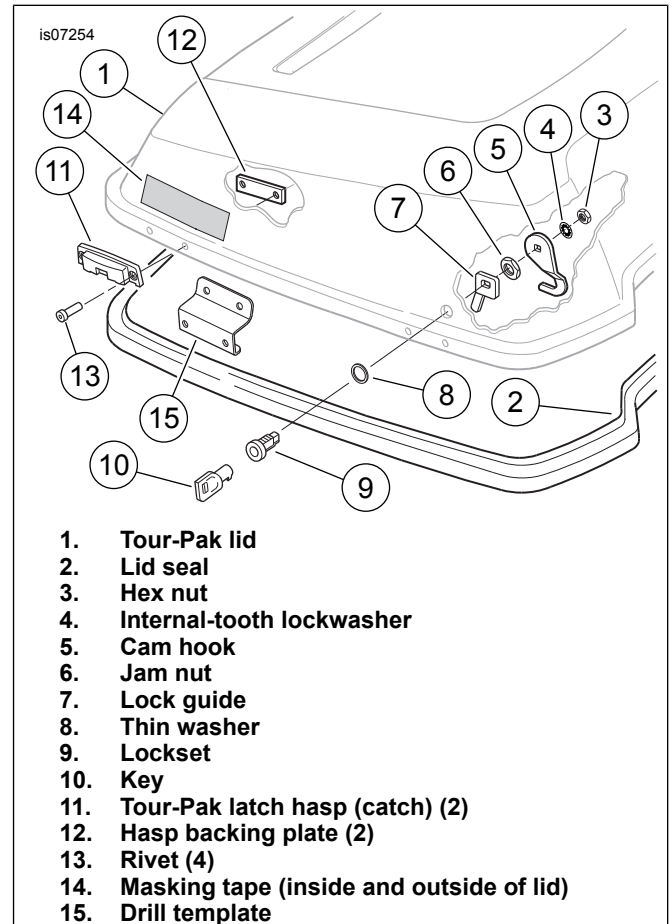

Figure 2. Tour-Pak Lid Modification for Premium Latch
See Figure 2. The thin washer (8) can be recycled or properly disposed of.
1. Remove the lockset from the Tour-Pak lid per service manual instructions. Note lockset (9) and lock guide (7) orientation before removal from the lid.
2. Position the latch over the lock hole in the lid, with the locating pins (A) in the holes on the lid flange.
3. See Figure 2. Insert the lockset (9) into the upper latch per the service manual.
4. Install the lock guide (7), in the proper orientation. Install the jam nut (6) and tighten per service manual instructions.
5. **For CVO models with power locks:** Assemble the remaining components per the service manual. **For ALL OTHER models:** Follow the service manual to install the cam washer, cam hook (5), flat washer (13) and lockwasher (4) onto the lockset threaded stud in the proper orientation.